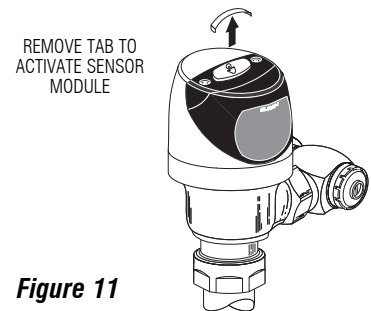

Figure 11
Step 8 — Remove Tab to Activate Sensor Module (Figure 11)